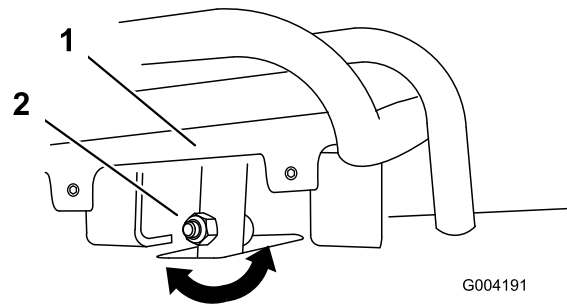
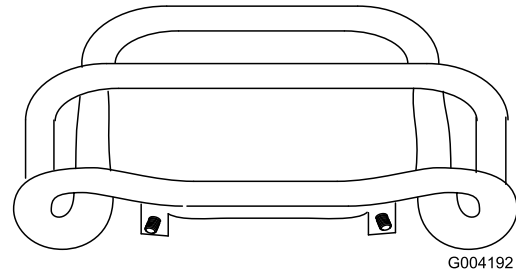

Figure 49
Figure 50
4. If the front of the traction control does not rest square and flush with the reference bar, loosen the flange nut and bolt in the stem of the traction control (Figure 49).
5. Adjust the traction control so that it rests flush against the reference bar when it is pulled straight back (Figure 49 and Figure 50).